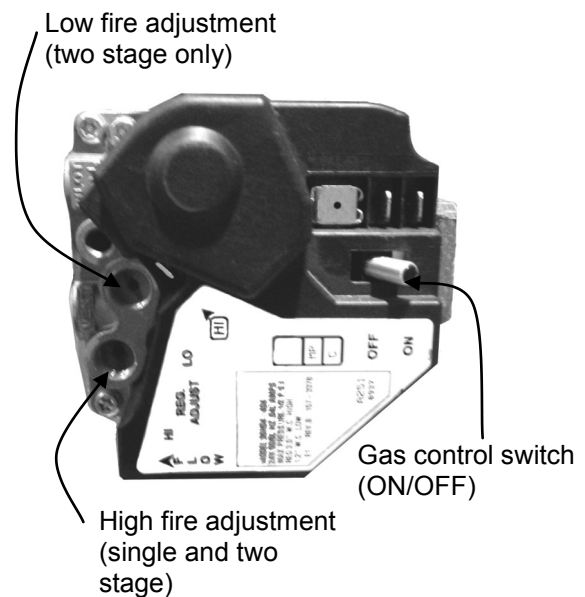

Figure 10 - Combination Valve (Top View)
4. Remove regulator cover screw from the low outlet pressure port (Figure 10) and turn screw clockwise to increase pressure, or counterclockwise to decrease pressure. Always adjust regulator according to furnace specifications (see Table 5). Replace regulator cover screw.
6. Remove regulator cover screw from the high outlet pressure regulator port (Figure 10) and turn screw clockwise to increase pressure, or counterclockwise to decrease pressure. Always adjust regulator according to furnace specifications (see Table 5). Replace regulator cover screw.
4. Remove regulator cover screw from the high outlet pressure regulator port (Figure 10) and turn screw clockwise to increase pressure, or counterclockwise to decrease pressure. Always adjust regulator according to furnace specifications. (See Table 5)
5. Remove regulator cover screw from the high outlet pressure regulator port (Figure 10) and turn screw clockwise to increase pressure, or counterclockwise to decrease pressure. Always adjust regulator according to furnace specifications. (See Table 5)
7. Remove regulator cover screw from the high outlet pressure regulator port on the Single Stage combination valve (Figure 10). Turn screw clockwise to increase pressure, or counterclockwise to decrease pressure. Always adjust regulator according to furnace specifications. (See Table 5)
13. Remove regulator cover screw from the high outlet pressure regulator port on the Two Stage combination valve (Figure 10). Turn screw clockwise to increase pressure, or counterclockwise to decrease pressure. Always adjust regulator according to furnace specifications. (See Table 5)
16. Remove regulator cover screw from the low outlet pressure port (Figure 10) and turn screw clockwise to increase pressure, or counterclockwise to decrease pressure. Always adjust regulator according to furnace specifications (see Table 5).